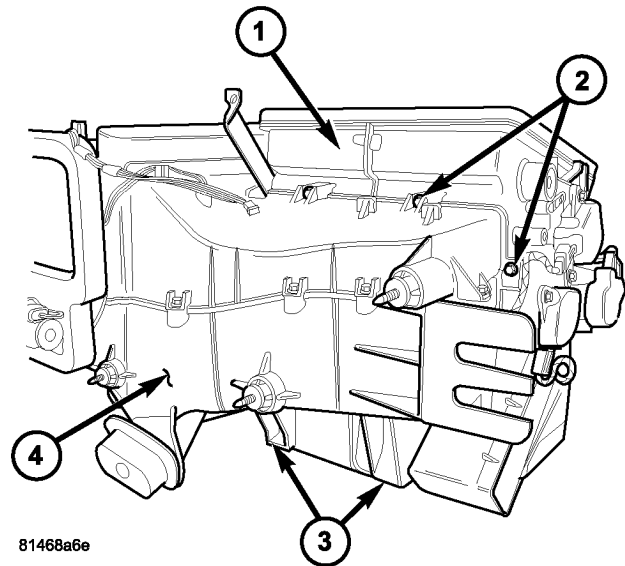

Fig. 13 Retainers - Air Distribution Housing
(8) Remove the four screws that secure the air distribution housing to the rear of the HVAC housing (Fig. 13).
(9) Tilt the top of the air distribution housing rearward to disconnect the distribution housing from the two tab-and-slot type retainers located at the bottom of the housing and remove the distribution housing.
(10) If required, disassemble the air distribution housing (Refer to 24 - HEATING & AIR CONDITIONING/DISTRIBUTION - FRONT/HVAC HOUSING - AIR DISTRIBUTION HOUSING - DISASSEMBLY).